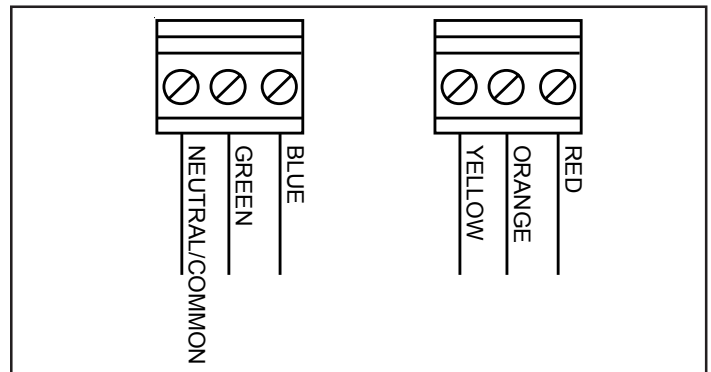
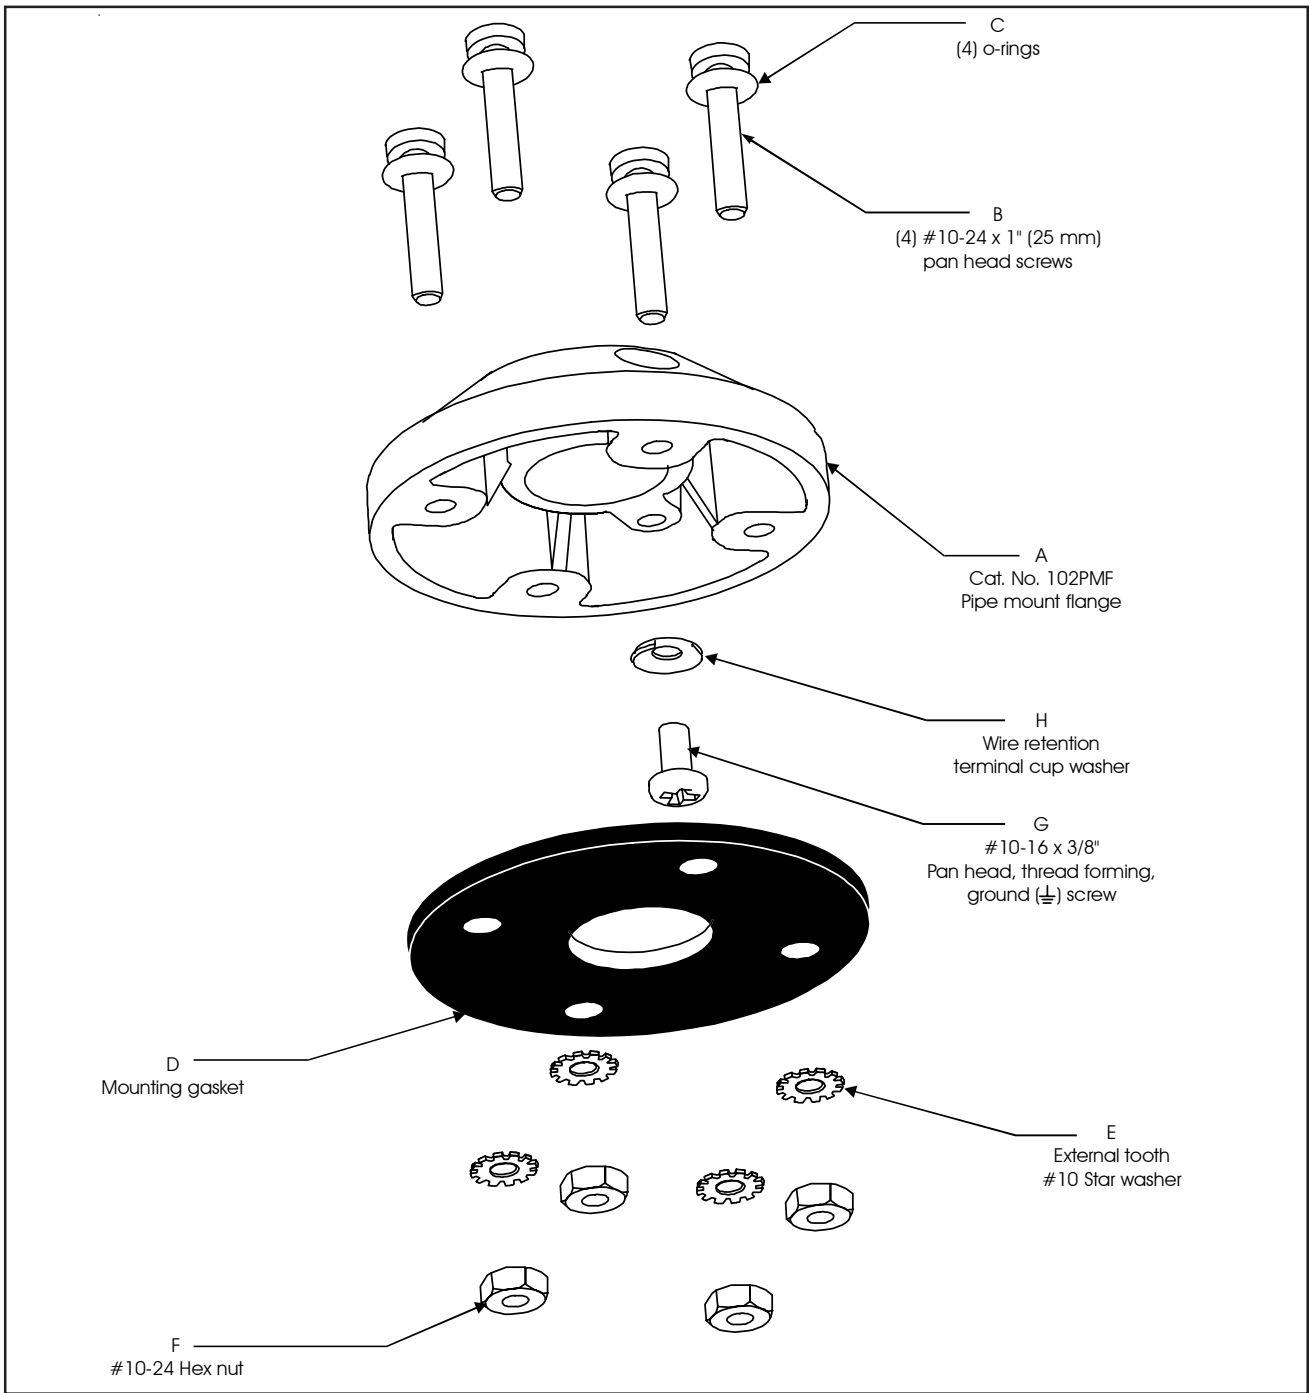

Figure 1. Wiring Cat. No. 102TBS
Figure 4. Optional 102PMF Mounting Kit Assembly
**NOTE:** All references below are to Figure 4.
- a. Using the supplied gasket (D) as a guide, mark the four mounting holes and the center clearance hole on an appropriate surface.
- d. Ground the flange by pulling the ground wire through the mounting surface clearance hole and center hole of the gasket. Connect earth ground to the bottom of the base mount flange using the ground screw (G) and wire retention terminal cup washer (H).
- f. Align the mounting gasket (D) and flange (A) on the panel. Secure using (4) #10-24 x 1" (25 mm) pan head screws (B), (4) external tooth #10 star washers (E) and (4) #10-24 hex nuts (F).
3. Connect field wiring to the terminal blocks as shown in Figures 1 and 2.